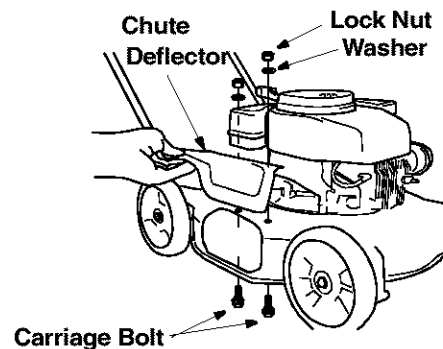

Figure 9
- Using group 5 from hardware pack, place carriage bolts from underside of the deck and up through the chute deflector. See Figure 9.